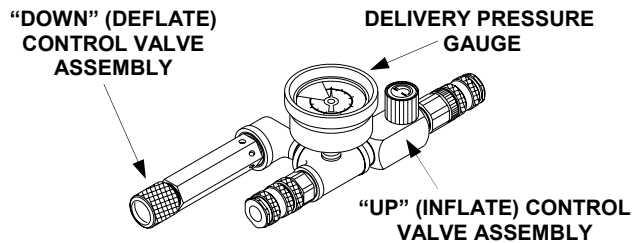

Figure 1-5. Single Safety Relief and Control Valve
a. The single safety relief and control valve (figure 1-5) is a single input/single output controller incorporating quick disconnect hose fittings and single knob controls to apply and release air pressure to one lift bag. A gauge is provided to monitor the air pressure applied to the lift bag and a 118 psi (8.1 Bar) relief valve is incorporated to limit the applied air pressure. Inflation and deflation is accomplished by turning the associated valve knob.